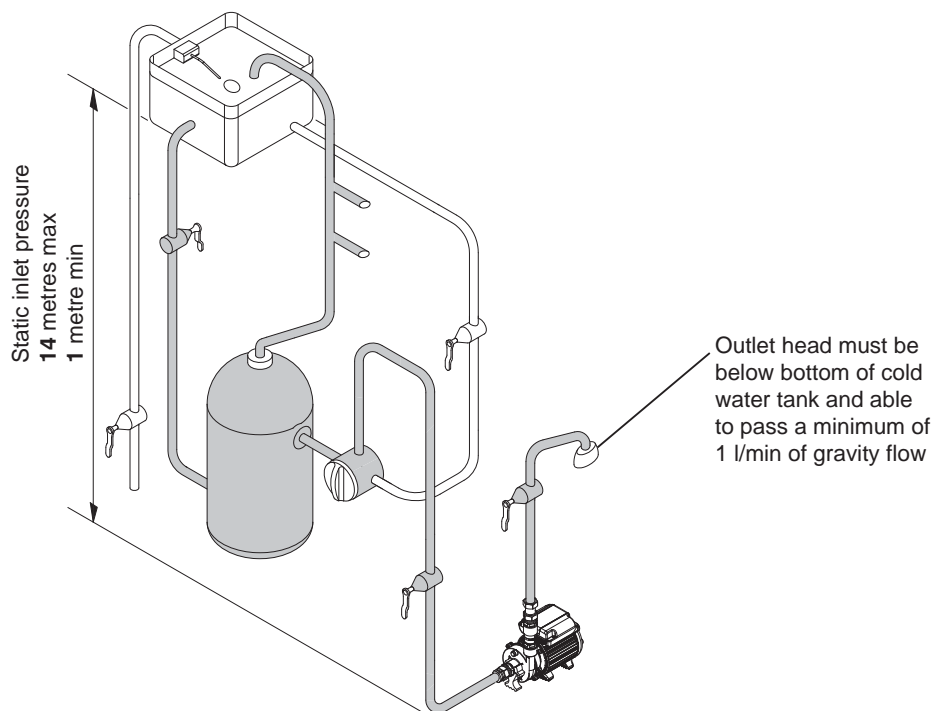

Fig. 3
- 2.16 **Static inlet pressure:** Before deciding where to locate the unit check to ensure the static inlet head between pump and cold water level (Figs. 3 & 4) is at least 1 metre and does not exceed the max inlet head of 14 metres.
- 2.20 **Static outlet pressure:** The static outlet head (Figs. 3 & 4) must also be within the maximum requirement of 14 metres.